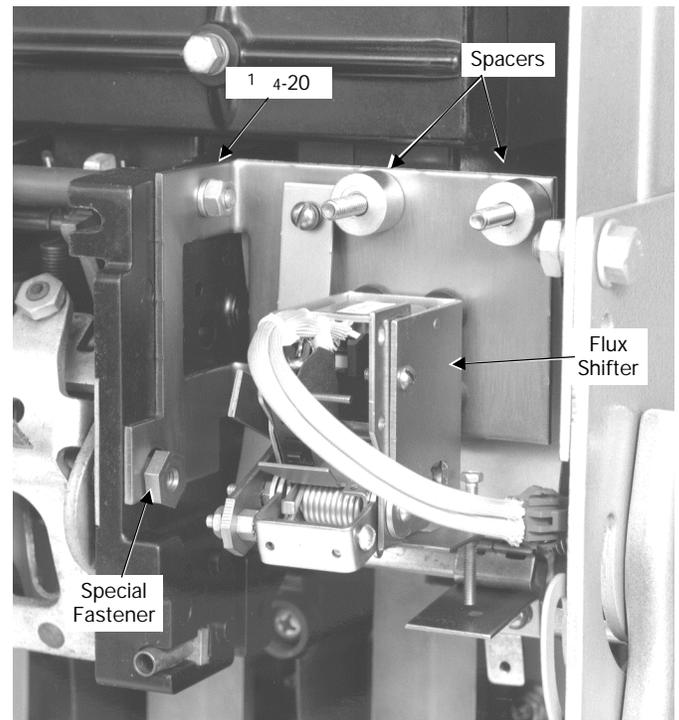
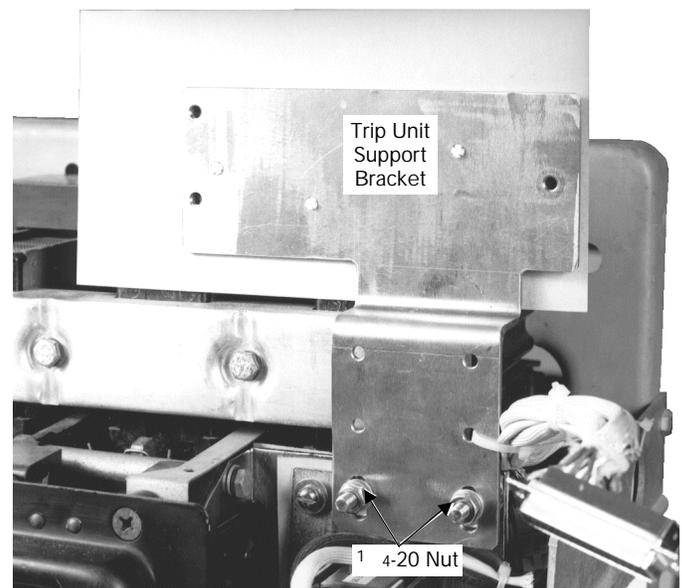

Figure 10. Installing the flux shifter assembly.
Figure 11. Trip unit support bracket installed.
2. Install the flux shifter assembly onto the existing studs as shown in Figure 10. Use the 1/4-20 nuts or bolt and lock washer to secure the top of the bracket to the side of the handle mechanism and the lock washer and special fastener to secure the bottom.
**NOTE:** Figure 10 shows the handle removed for clarity. It is not necessary to remove the handle during installation.
3. Place the two 1/2" spacers over the studs on the flux shifter mounting plate, as shown in Figure 10. Place the two mounting holes in the trip unit support bracket over the studs on the top of the flux shifter bracket, as shown in Figure 11. Secure with the 1/4-20 nuts, flat washers, and lock washers provided.